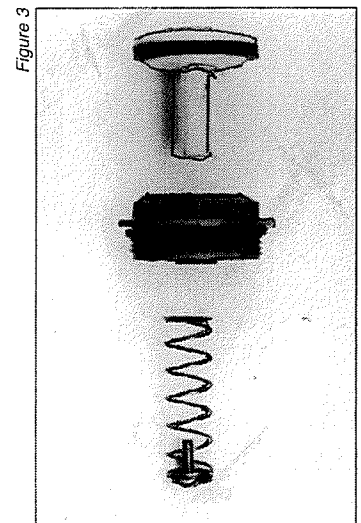

Figure 3
- e. Use flat head screw driver to disassemble the check valve (see figure 3)